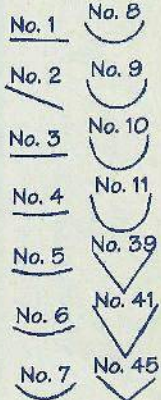

Fig. 1. Tool sweeps.
For crisp, clean carving, you'll need to sharpen your knives and keep them sharp. Two flat ceramic sharpening stones will do the job (see Fig. 1). Use the medium-grade stone first for shaping and sharpening, and then the ultra-fine stone for polishing the blade and keeping the edge freshly sharp. After you've done the initial shaping and honing, the ultra-fine is all you need to maintain your edge. You should be able to sharpen the blades to a mirror finish. Depending on the type of wood and how many cuts you make, you will need to freshen the blade only once or twice in a day's carving.
**Fig. 1.** Two flat ceramic sharpening stones are recommended. The medium-grade stone (left) is used for shaping and sharpening, and the ultra-fine stone (right) is used for polishing the blade and keeping the edge freshly sharp.
See Fig. 1 for a chart of the sweeps, 1 through 11, plus three V tool shapes.